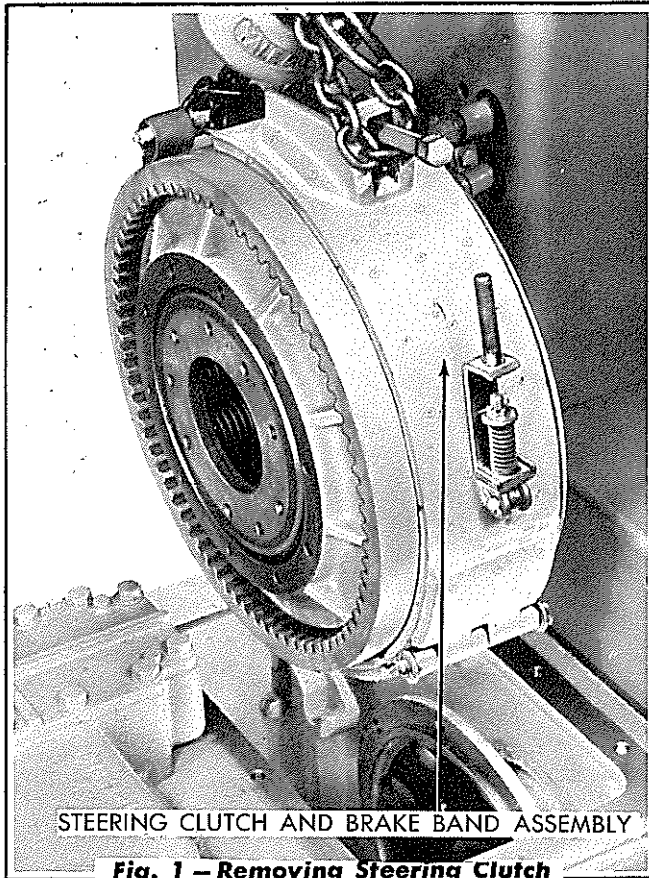

Fig. 1 – Removing Steering Clutch
8. Using a small chain hooked around the brake band adjuster and around a suitable $\frac{3}{8}$ " bolt or rod inserted in the lower end of the brake band as shown in Fig. 1, lift the steering clutch assembly out of the compartment: *NOTE: Before lifting the clutch in this manner, turn the brake band on the brake drum so that the brake band adjuster is as far forward as possible, then place the lifting hook on the small chain as near to the adjuster as possible.* With the band turned in this position, the brake band adjustment support (at the rear of the band) will be turned forward far enough so that it will clear the top rear of the clutch housing as the clutch is lifted from the compartment.